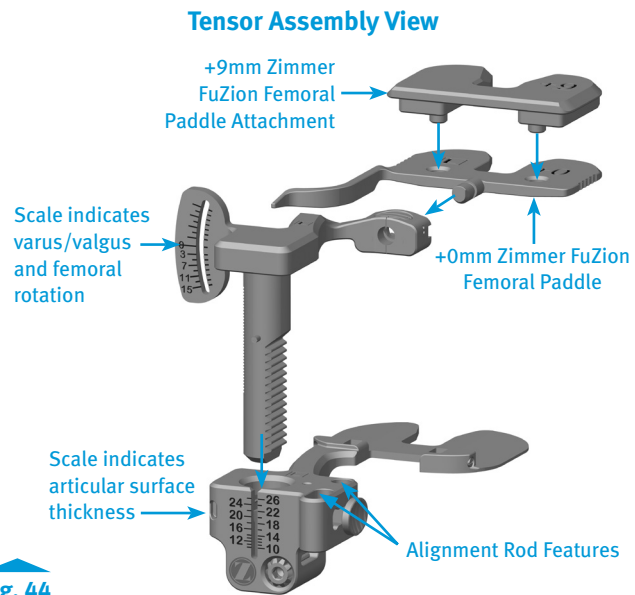

Fig. 44
- Remove all the osteophytes and complete the initial ligament balancing. Place the leg in extension. Assemble the *Zimmer FuZion* Tensor with the +9mm Paddle (Fig. 44). Insert the *Zimmer FuZion* Tensor into the extension gap.
Note: Use the +0mm *Zimmer FuZion* Femoral Paddle to evaluate the joint space prior to resection. Attach the +9mm *Zimmer FuZion* Femoral Paddle to the +0mm *Zimmer FuZion* Femoral Paddle (attachment is magnetic) to evaluate the joint space after the femoral condyles have been resected (Fig. 44).